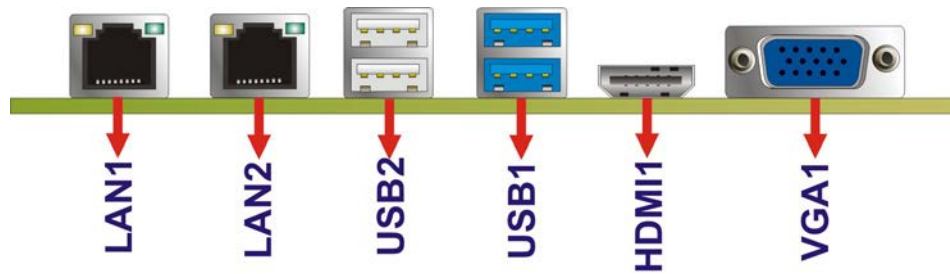

Figure 3-31: External Peripheral Interface Connector
Figure 3-31 shows the NANO-SE-i1/KBN-i1/GLX external peripheral interface connector (EPIC) panel. The EPIC panel consists of the following:
CN Location: See **Figure 3-31**
- CN Location:See **Figure 3-31**
CN Location:	See Figure 3-31